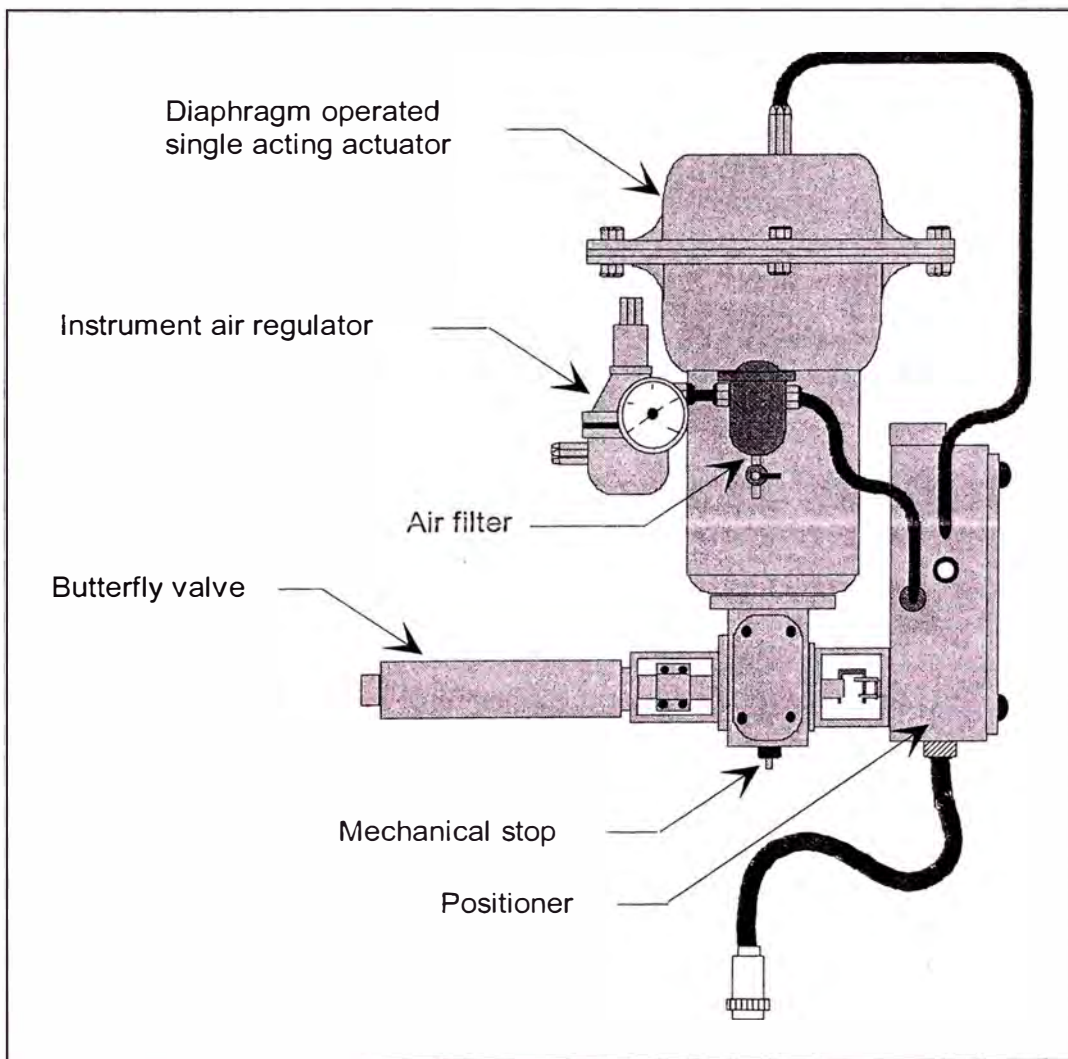
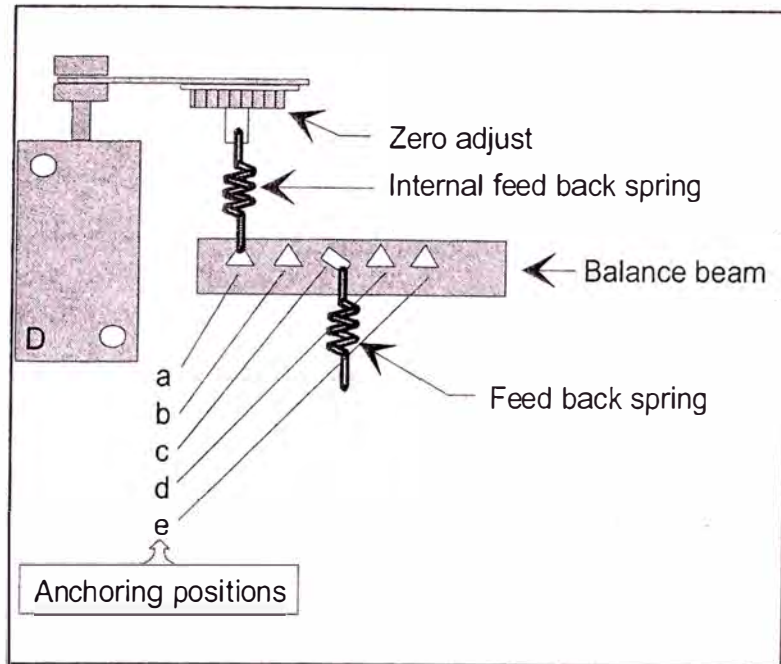

Figure 1. Standard valve assembly
Figure 6. Feed back spring attachment
The control valve assembly consists of three separate major components. These are the **Positioner**, the **Actuator**, and the **Valve**. Each valve assembly is also fitted with an instrument air regulator and an air filter. The standard assembly is provided in different sizes for the various valve sizes. Figure 1 shows a typical arrangement with a butterfly valve attached to the actuator.
The internal feed-back spring is identified on Figure 1 as item (14). Figure 6 below is an expanded view of the attachment mechanism for this spring.